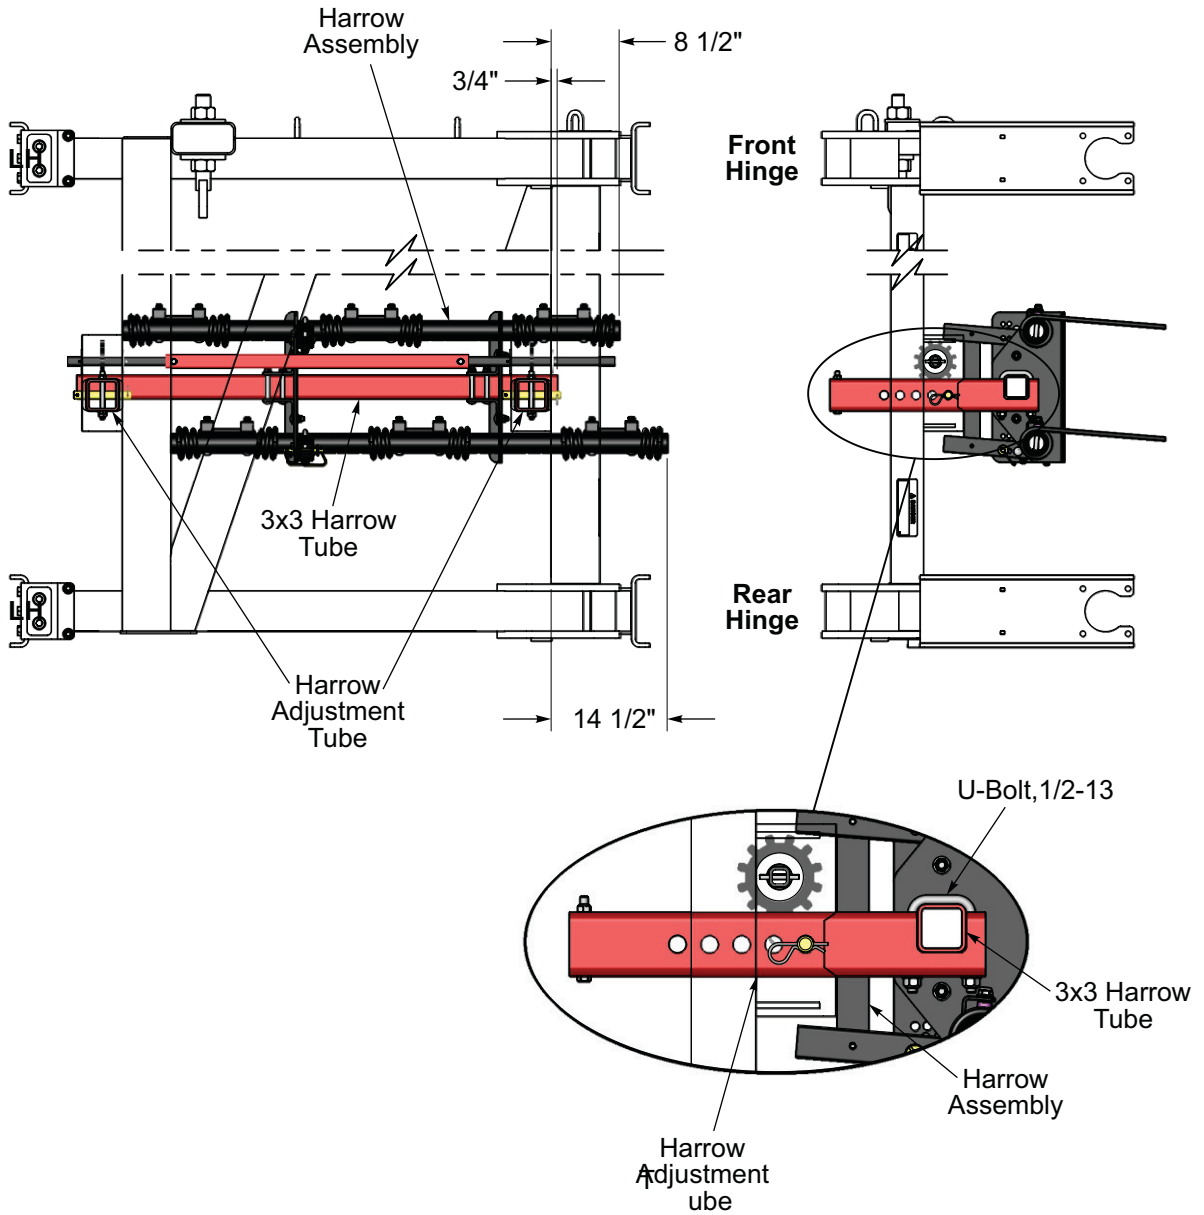

Figure 2-62: Left Hand Wing Harrow Dimension
2. Lift Harrow Assembly and slide the Harrow 3 x 3 Tube into the cut-out portion of the Harrow Adjustment Tube and insert a 1/2-13 U-Bolt on each side. Check Harrow position in relation to the Frame and secure with Flat Washer and Locknut. See Figures 2-62 and 2-63.